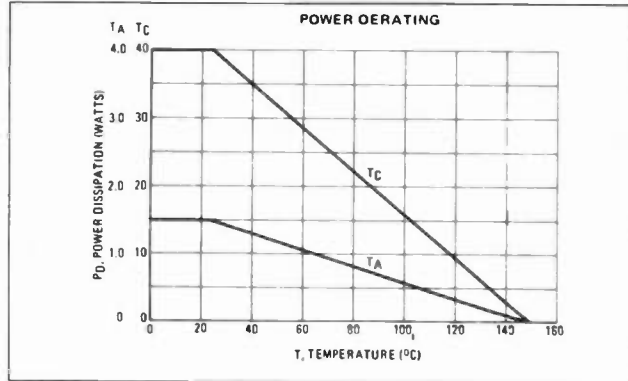

Fig. 6. Semiconductor thermal specifications and parameters.
facturers' data sheets, details of how the values for thermal resistances are obtained have not been discussed. Yet determining these values from the specifications sometimes requires skill. Familiarity with the types of data most likely to appear in the data sheet is necessary to success. With the aid of the data sheet appearing in Fig. 6, this data and its interpretation are described in the following paragraphs.
The data sheet in Fig. 6 was chosen to illustrate common methods of specifying semiconductor thermal specifications for two reasons. First, all of the specifications are labeled clearly and are arranged into a single, logical area of the specification. This is not true of all semiconductor data sheets. Often, thermal specifications, particularly for linear integrated circuits, are placed in notes. (The entire data sheet should be read before concluding that they have been
omitted.) The second reason for selecting the data sheet shown in Fig. 6 was that it contained all of the data relating to thermal specification. A typical data sheet will provide only a portion.
Thermal resistance is specified by direct specification, by derating, and by thermal-related parameters. A manufacturer uses direct specification when he tabulates thermal resistance in data sheets. The designer simply inserts the specified values into his thermal equations. Items 4 and 5 of Fig. 6 illustrate direct specifications.
Notice (in item 6 of Fig. 6) that Motorola gave a derating curve for both case and ambient temperatures. Each curve is labeled with the appropriate temperature.
The fact that this data agrees with the derating curve can be verified by comparing these two points on the derating curve labeled  $T_C$  in Fig. 6, item 6. Though Motorola seems to specify  $P_{max}$  as part of the derating specification, the appearance is created by the organization of the data